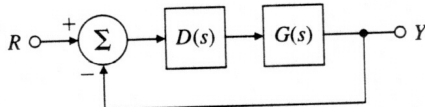

Figure 5.60: Unity feedback system for Problems 5.22 to 5.28 and 5.33
Using root-locus techniques, find values for the parameters a , b , and K of the compensation $D(s)$ that will produce closed-loop poles at $s = -1 \pm j$ for the system shown in Fig. 5.60.
23. Suppose that in Fig. 5.60,
24. Suppose the unity feedback system of Fig. 5.60 has an open-loop plant given by $G(s) = 1/s^2$. Design a lead compensation $D(s) = K \frac{s+z}{s+p}$ to be added in series with the plant so that the dominant poles of the closed-loop system are located at $s = -2 \pm 2j$.
25. Assume that the unity feedback system of Fig. 5.60 has the open-loop plant
Performance specifications of the system in the unity feedback configuration of Fig. 5.60 are satisfied if the closed-loop poles are located at $s = -1 \pm j\sqrt{3}$.
28. Assume the closed-loop system of Fig. 5.60 has a feed forward transfer function $G(s)$ given by